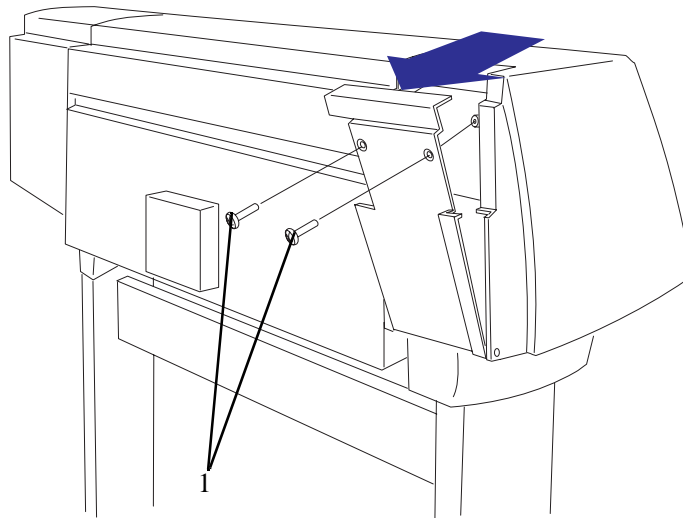
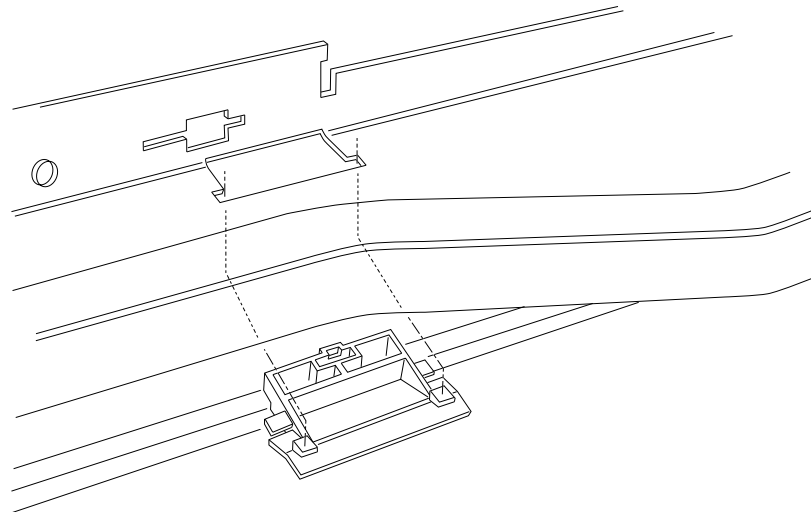

Figure 64: Rear Left Hand Cover
Figure 66: Leak Detector
Refer to Figure 64 to Figure 66.
2. Open the door at the back of the left hand cover by removing two T15 screws (item 1) (refer to Figure 64).
6. Unclip the Leak Detector from the Printer and remove as shown in Figure 66.